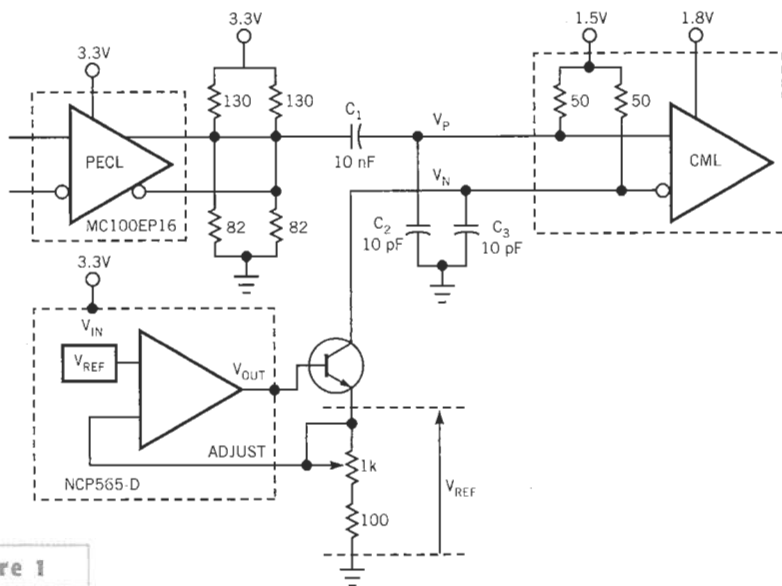
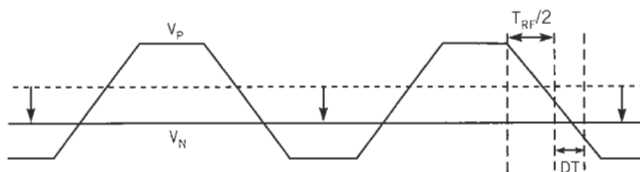

Figure 1
Figure 2
TO TEST A GIGABIT-SPEED data-recovery chip, you need a clock with a controllable duty cycle. Because most pattern and clock generators have a fixed duty-cycle output of 50%, the design may require a small circuit to distort the duty cycle. The signal with controllable duty cycle drives a standard CML (current-mode-logic) input with on-chip termination resistors. One side, V_P , of the differential CML input takes single-ended drive from a PECL (positive-emitter-coupled-logic) circuit (Figure 1). The other input, V_N , connects to a controllable dc voltage. If this dc voltage is equal to the average voltage of the single-ended signal, the duty cycle stays 50%. If the signal has nonzero rise and fall times (T_{RF}), you can distort the duty cycle by lowering the dc voltage (Figure 2). The distortion generated is equal to the time difference between the crossing of the single-ended signal and its average and the crossing between the single-ended signal and the set dc voltage (DT). Thus, the theoretical maximum distortion that you can generate is T_{RF} .